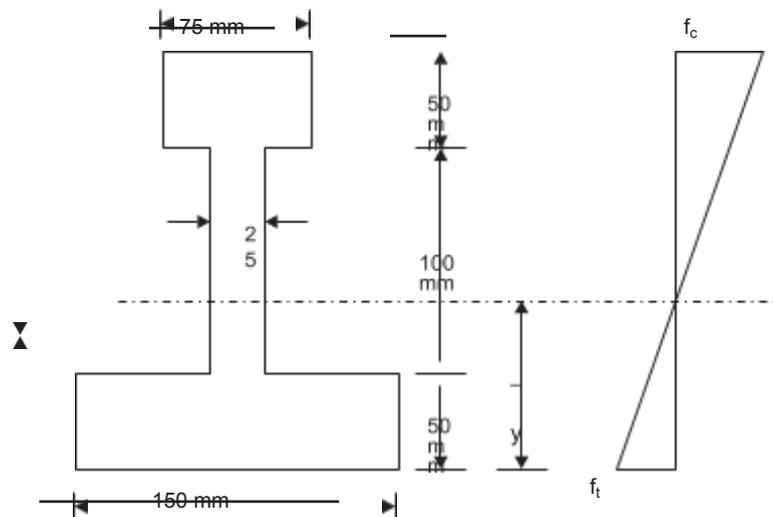

Fig. 14
**Example 6.** The cross-section of a cast iron beam is as shown in Fig. 14(a). The top flange is in compression and bottom flange is in tension. Permissible stress in tension is  $30 \text{ N/mm}^2$  and its value in compression is  $90 \text{ N/mm}^2$ . What is the maximum uniformly distributed load the beam can carry over a simply supported span of 5 m?